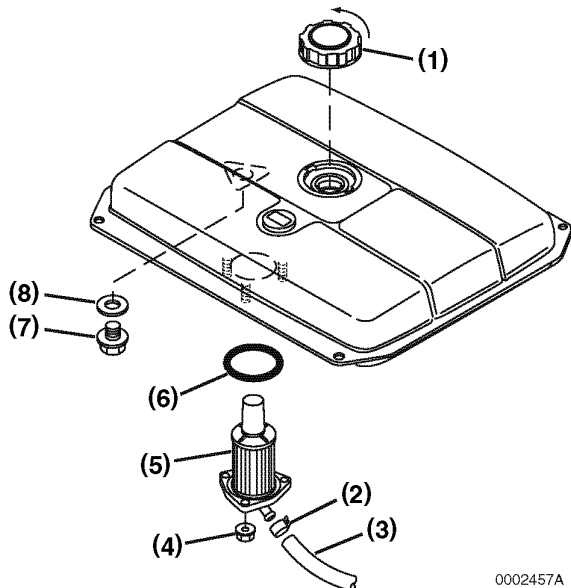

Figure 9-14
2. Remove the drain plug (Figure 9-14, (7)) and seal (Figure 9-14, (8)) from tank and drain the fuel from tank into a suitable container. Do not allow any fuel to spill and clean any fuel that spills immediately.
3. Remove the outlet fuel clamp (Figure 9-14, (2)) and hose (Figure 9-14, (3)) from tank fuel filter (Figure 9-14, (5)).
5. Remove the three fuel filter housing nuts (Figure 9-14, (4)) and pull out fuel tank filter together with the O-ring (Figure 9-14, (6)).